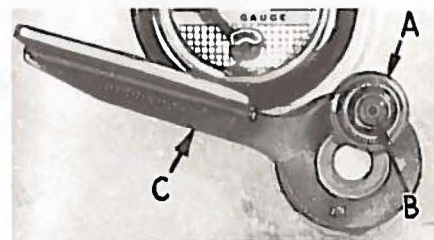
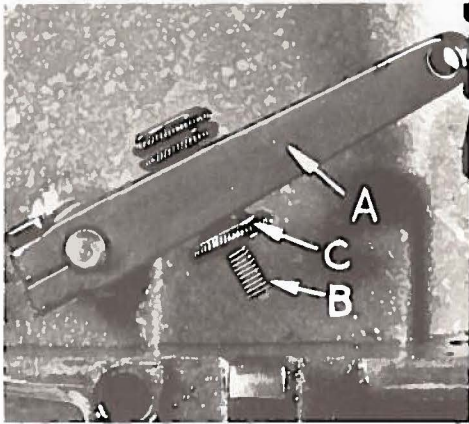

Fig. 28
Fig. 30
To change the length of stitch, loosen knurled locknut (A, Fig. 28) and turn the feed adjusting screw (B). Turning the screw to the right decreases the stitch length resulting in more stitches per inch and turning the screw to the left acts the reverse. Tighten locknut (A) after obtaining the desired stitch length.
NOTE: The reverse feed is actuated by pushing down on the reverse feed control lever (C, Fig. 28) and the reverse feed will continue to operate as long as the control lever is held down.
CAUTION: On machines equipped with a treadle control reverse feed lever (A, Fig. 30) remove this lever before tipping machine back against the rest pin.
On machines equipped with a treadle control reverse feed lever (A, Fig. 30), hold down the reverse feed control lever (C, Fig. 28) and adjust the stop screw (B, Fig. 30) to stop against the bed casting. Lock stop screw (B) in this position with locknut (C). This is to prevent damage to the feed adjusting screw, when reverse feed is actuated by stepping on the treadle.